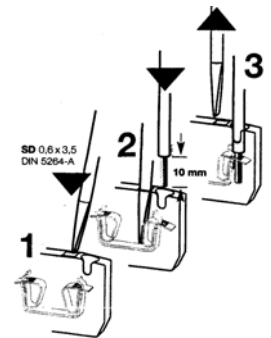

Figure 8.2.3
- With a suitable screwdriver (SD 0,6x3,5 DIN 5264-A), connect the cables for the control signals according to the electric connection diagram (Figure 8.2.3).